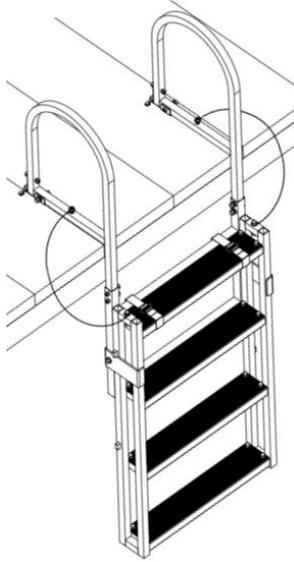

Fig 4
- 3) If the bottom of the ladder does not touch the bottom of the pool, the ladder can be adjusted for maximum use, as shown in the figure 4.